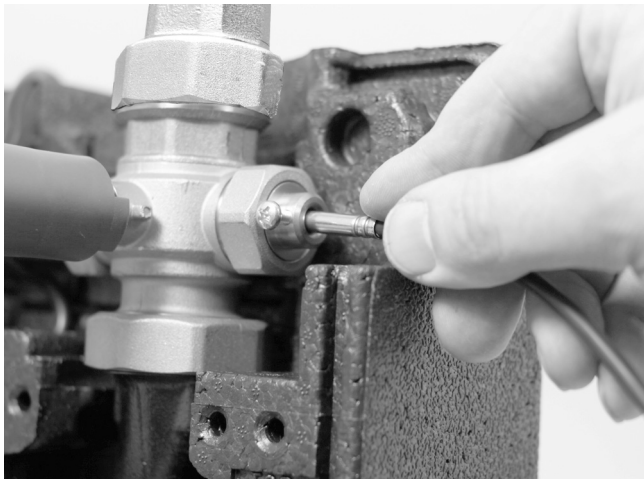

Fig. 43: Installing the flow temperature sensor
1. Slide the flow sensor into the sensor immersion tube on the ball valve of the heating circuit station (HKS-FB) and secure it using the screw → Fig. 43.